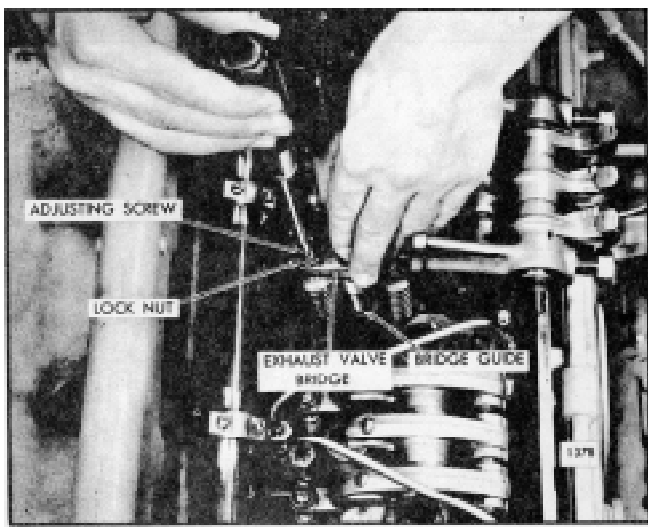

Fig. 21. Valve Bridge Adjustment
3. While firmly pressing straight down on the pallet surface of the valve bridge, turn the adjusting screw clockwise until it just touches the valve stem. Then, turn the screw an additional 1/8 to 1/4 turn clockwise and tighten the lock nut finger tight (Fig. 21).